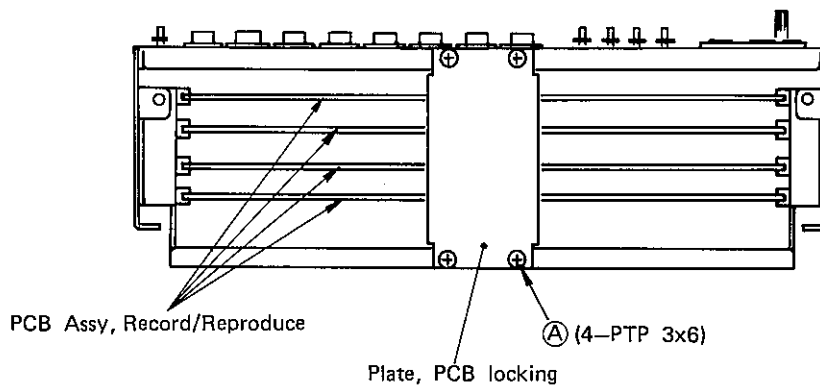

Fig. 6-3
- \* With the bottom cover removed, as in previous item 1, remove two upper and lower screws on the panel side, from among the six (D) screws on both sides of the amplifier section.
- \* Then, draw out the panel section and remove the dress panel by unscrewing the six screws (E) from the underside of the panel.
4) Record/reproduce PCB (Fig. 6-3)
- \* Upon removing the plate holding down the PCB's by unscrewing the four screws (A), the record/reproduce PCB can be brought out by using the extender card as these are all of the plug-in type.